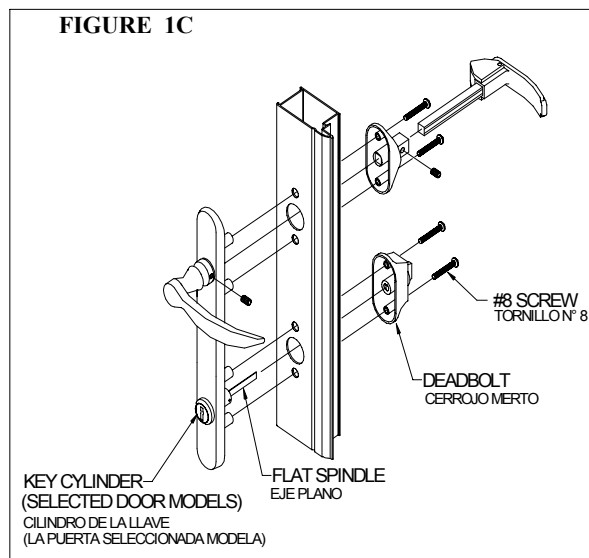

FIGURE 1C
C: Insert the flat spindle of the key cylinder (selected door models only) into the center deadbolt hole. Fasten the deadbolt with (2) #8 machine screws. **FIGURE 1C**